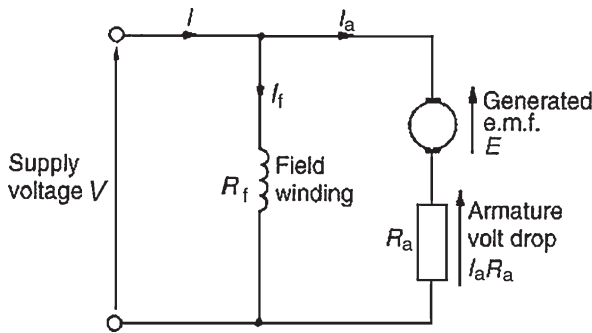

Figure 22.16
In the shunt-wound motor the field winding is in parallel with the armature across the supply, as shown in Fig. 22.16.
For the circuit shown in Fig. 22.16,
- (ii) The armature circuit of a d.c. motor has resistance due to the armature winding and brushes, R_a ohms, and when armature current I_a is flowing through it, there is a voltage drop of $I_a R_a$ volts. In Fig. 22.16 the armature resistance is shown as a separate resistor in the armature circuit to help understanding. Also, even though the machine is a motor, because conductors are rotating in a magnetic field, a voltage, $E \propto \Phi \omega$, is generated by the armature conductors. From equation (5), $V = E + I_a R_a$ or $E = V - I_a R_a$. However, from Section 22.5, $E \propto \Phi n$, hence $n \propto E / \Phi$ i.e.